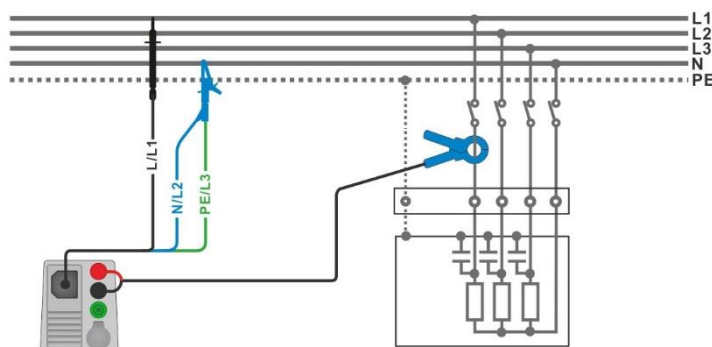

Figure 7.100: Power measurement
- › Connect the 3-wire test lead and current clamp to the item to be tested (see **Figure 7.100**).